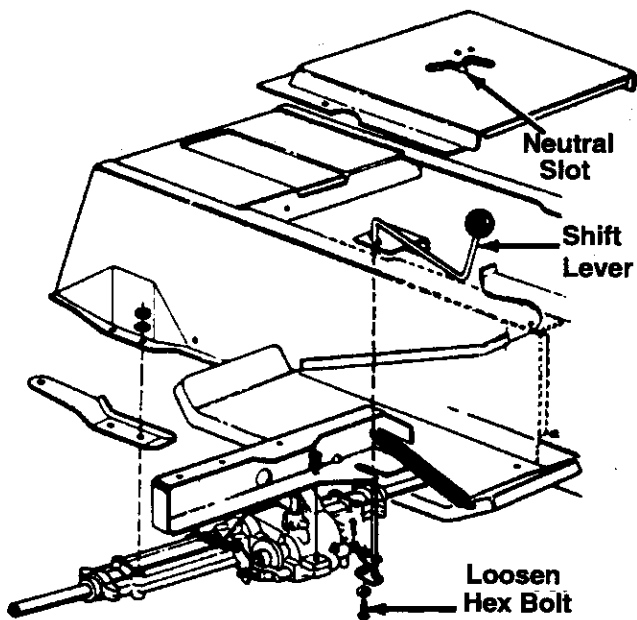

Figure 18
2. Loosen the bolt which secures the shift lever assembly to the shift lever link. See Figure 18.
3. Place the shift lever in the neutral slot. See Figure 18.